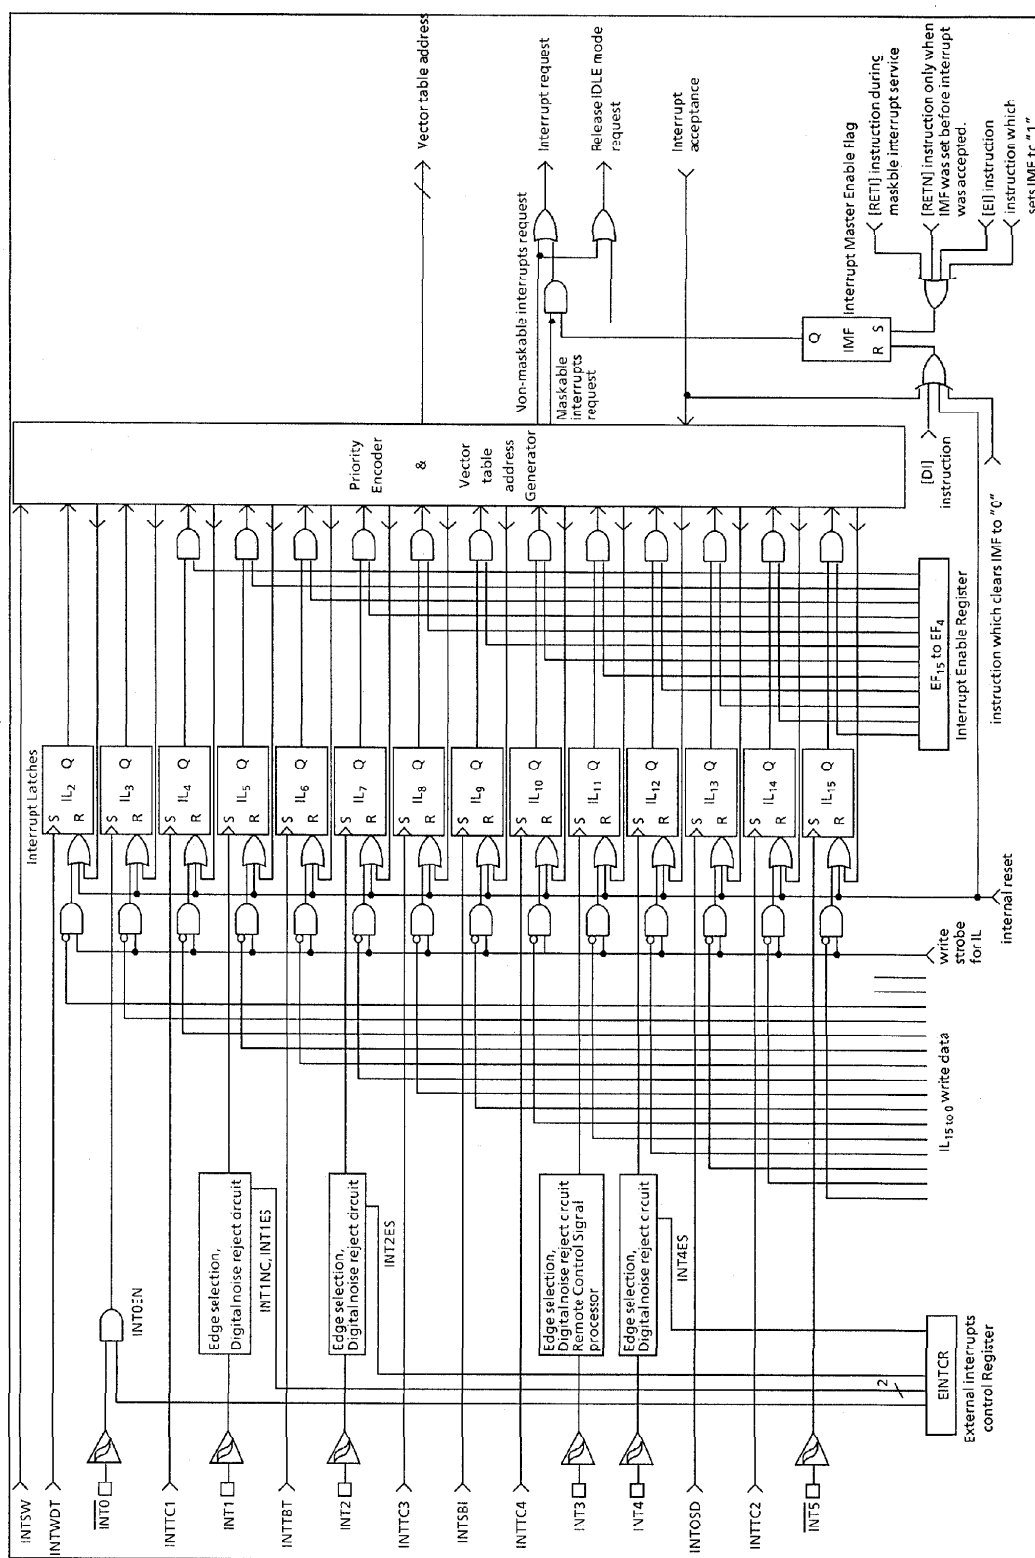

Figure 1-23. Interrupt Control Block Diagram
The interrupt latch is set to "1" when an interrupt request is generated and requests the CPU to accept the interrupt. The acceptance of maskable interrupts can be selectively enabled and disabled by the program using the interrupt master enable flag (IMF) and the individual interrupt enable flags (EF). When two or more interrupts are generated simultaneously, the interrupt is accepted in the highest priority order as determined by the hardware. Figure 1-23. shows the interrupt controller.